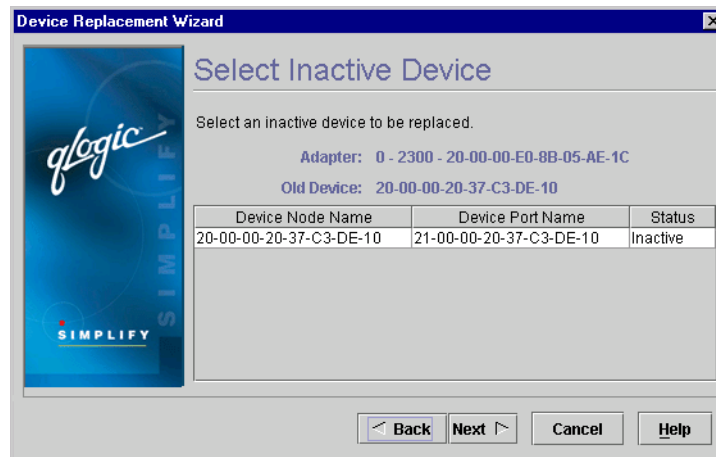

Figure 7-17. Select Inactive Device Dialog Box
4. If you clicked **Next**, the **Select Inactive Device** dialog box displays (see figure 7-17).